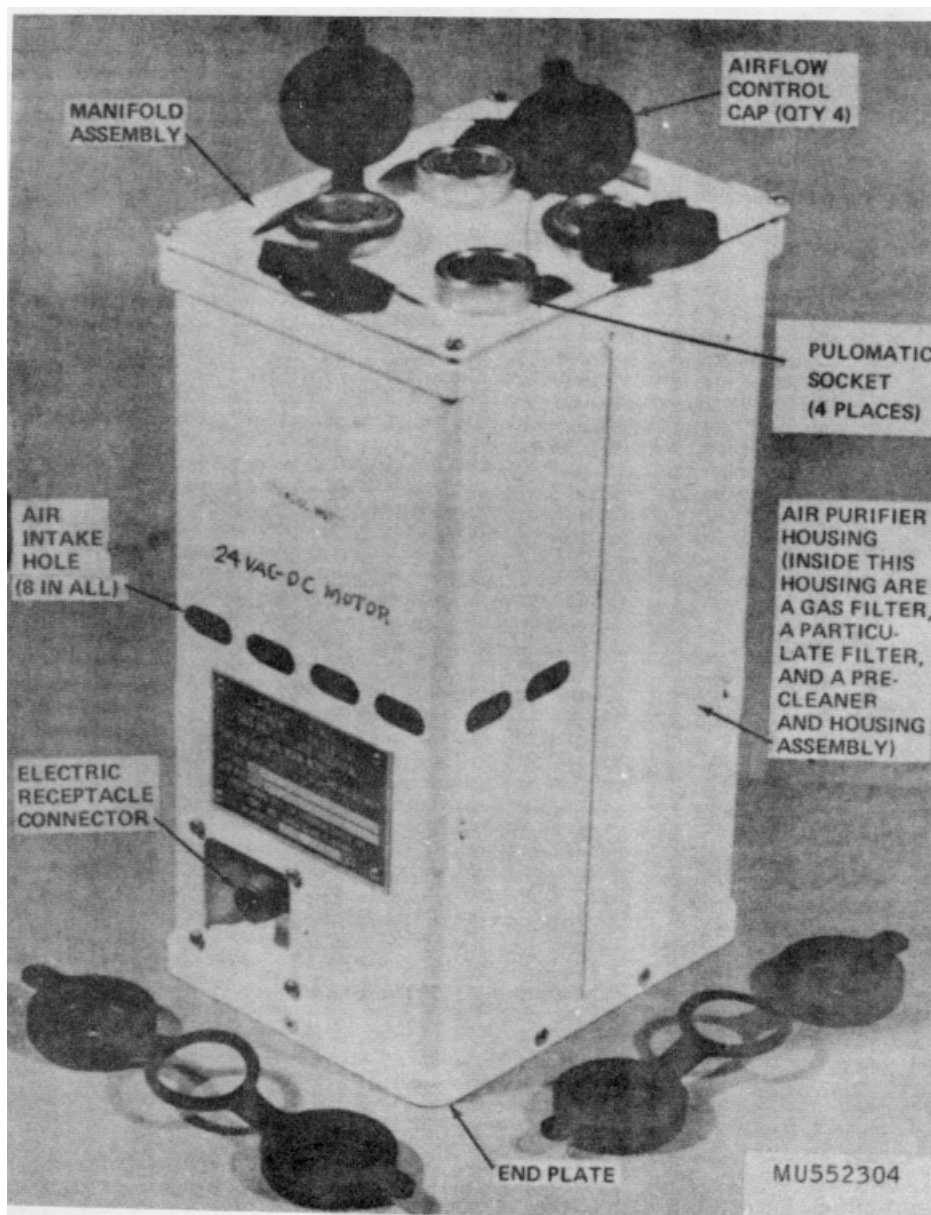

Figure 1-4. M2A2 air purifier assembly.
d. *Air Purifier.* The M2A2 air purifier (fig. 1-4) consists of a manifold assembly, a precleaner and housing assembly, an M13 12 cfm particulate filter, an M12A1 12 cfm gas filter, and airflow control caps. The manifold assembly closes the air outlet end and the end plate closes the inlet end of the air purifier. The manifold assembly has four (earlier models have three) pulomatic sockets for attaching hose assemblies. The four sockets are equipped with airflow control caps. Each airflow control cap has a ring in its middle which fits around a pulomatic socket. One end is a solid cap and the other end has a hole in its center. The solid caps are used to prevent foreign matter or moisture from entering the gas filter when the hoses are not attached to the purifier. A solid end cap is snapped over the pulomatic socket that is not in use. The end of the airflow control cap with the small hole in it is snapped over a pulomatic plug on the manifold when a second pulomatic socket is not in use. This prevents excessive air pressure from building in the two pulomatic sockets in use.